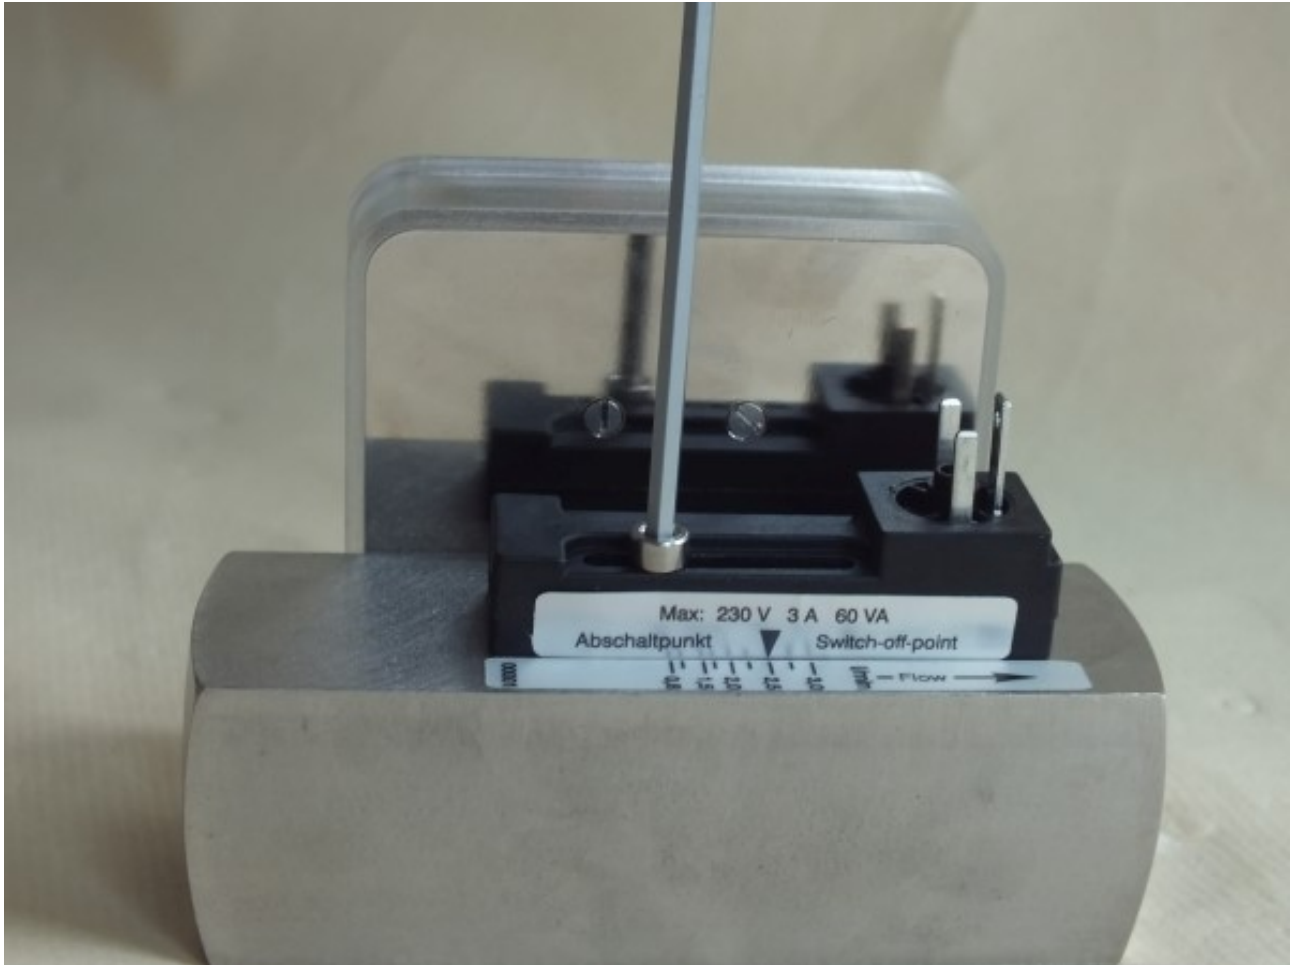

Fig. 69: Loosen set screw
- 3.** → Using a hex screwdriver (*Fig. 69*), release the set screw of the switch contact, until the switch contact can be removed
10. ➤ Tighten the set screw (Fig. 69/1) observing the proper tightening torque of the screw (→ Chapter 11.1 "Tightening torque" on page 96)